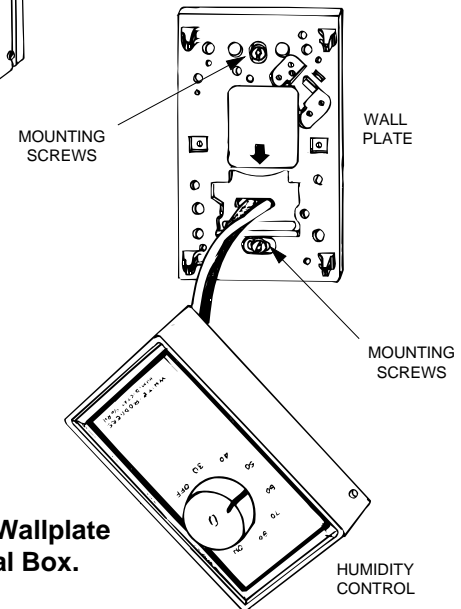

Figure 3.
3. Push wire connections into electrical box, place wallplate over electrical box (insuring wallplate is right end up for vertical or horizontal) line up mounting holes and fasten wallplate with screws supplied. (see Fig. 3)